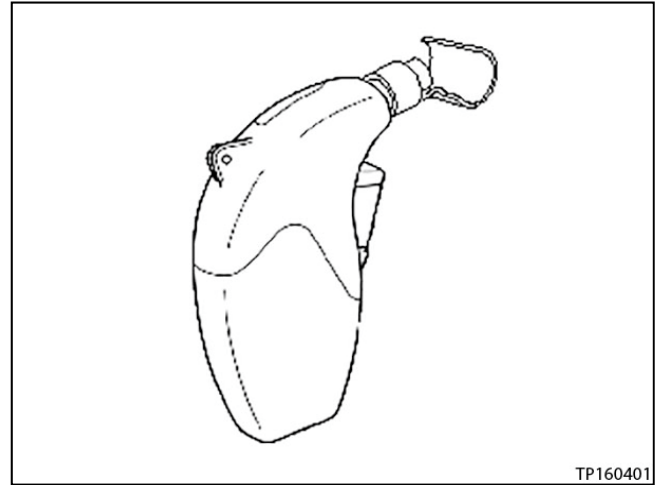

Figure 41
46. "Install" the solder sleeve connector by shrinking it to the wire with essential tool Flameless Heat Gun J-46538 or similar flameless heating tool (see Figure 41 and 42).